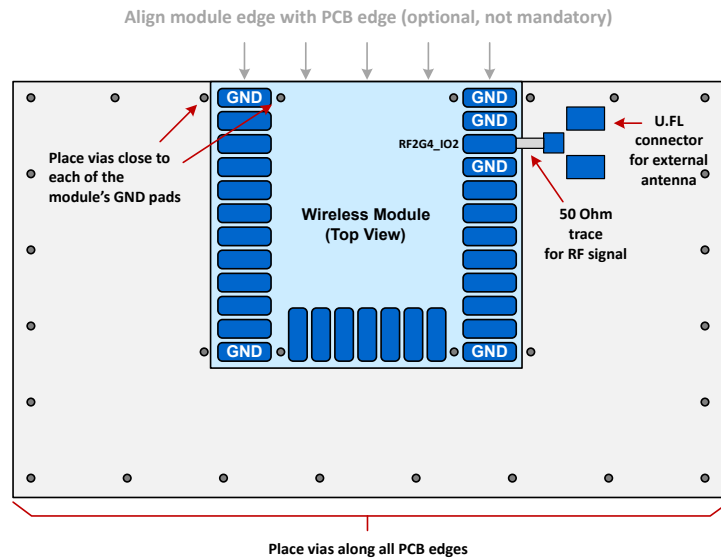

Figure 7.2. Recommended Layout for BGM210P Using External Antenna
- For external antenna use cases, use a 50 Ω grounded coplanar transmission line to trace the signal from the RF pin to an external RF connector if applicable (see Figure 7.2 Recommended Layout for BGM210P Using External Antenna on page 32).